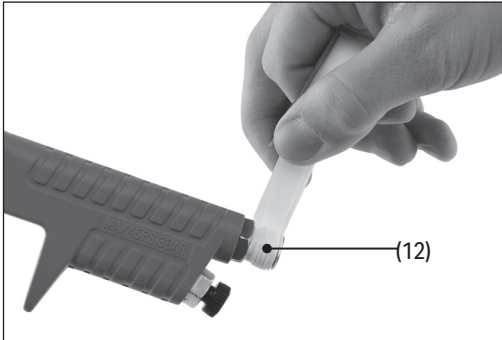

Fig. 8
3. Wrap a length of PTFE tape around the spray gun air line inlet (12) (Fig. 8).